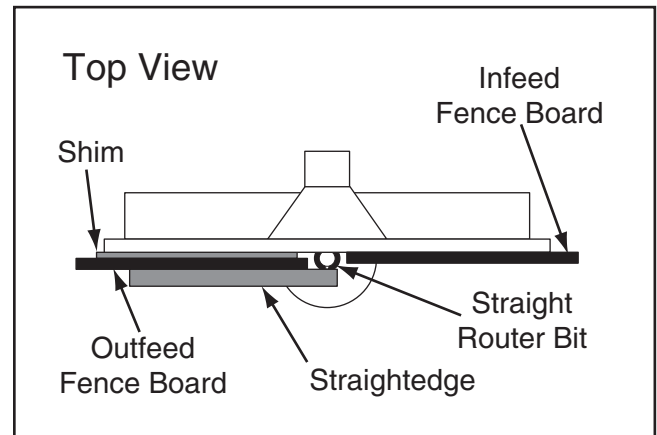

Figure 16. Fence setup for edge jointing (guard removed for clarity).
5. Secure a shim between the outfeed fence board and fence support. The thickness of the shim controls the amount of material removed with each pass. (see the illustration in **Figure 16**).
6. Place a straightedge against the outfeed fence board, then adjust the fence assembly so that the straightedge is also against the bit flute, as illustrated in **Figure 16**.